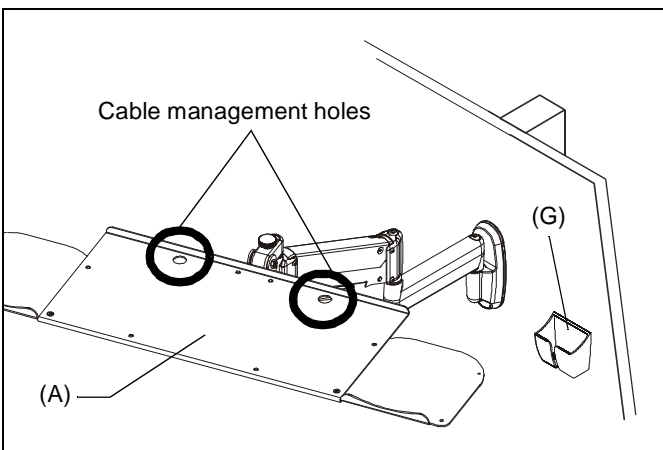

Figure 5
1. Remove paper from adhesive on mouse holder (G).
2. Place mouse holder (G) on wall at desired location. (See Figure 5)
1. Thread keyboard cable through one of two cable management holes along back edge of keyboard tray. (See Figure 5)